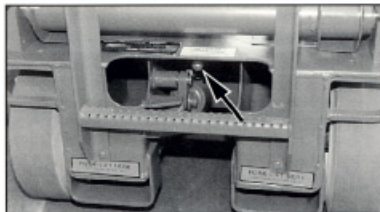

Figure 3: Emergency Lowering Valve Handle
15. Open the Chassis Emergency Lowering Valve (Figure 3) to check for proper operation by pulling and holding the handle out. Once the platform is fully lowered, close the valve by releasing the handle.
Ask a person on the ground to open the Emergency Lowering Valve (Figure 3) to lower the platform. This valve is opened with the handle located at the rear of the machine.